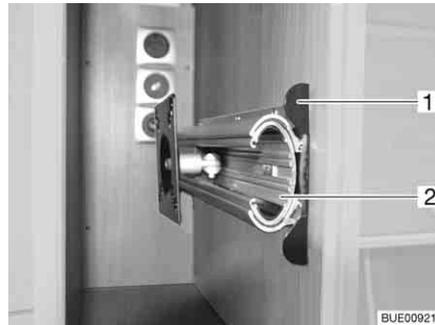

Fig. 49 Holder in the TV cabinet
- Push the unlocking bar (Fig. 49,1) in.
- Pull out the extension (Fig. 49,2) as far as possible.
- Push in the extension (Fig. 49,2) until the unlocking bar (Fig. 49,1) engages.